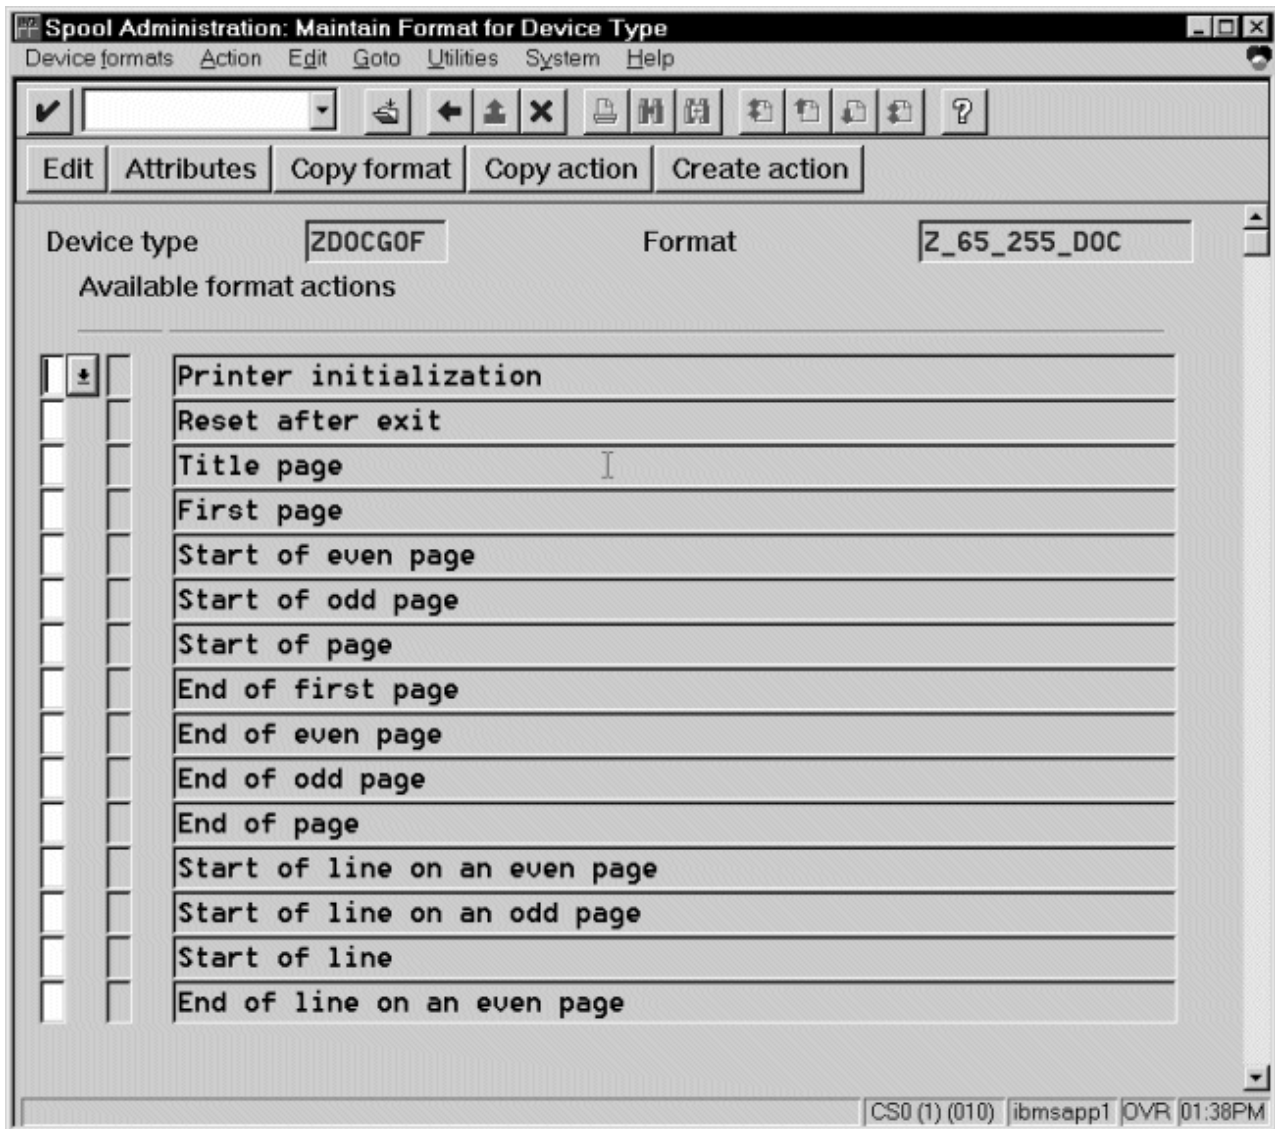

Figure 54. Spool Administration: Maintain Format for Device Type window
5. From the **Maintain Format for Device Type** window shown in Figure 54 on page 130, the blank left column indicates that the customized format has not yet been initialized: